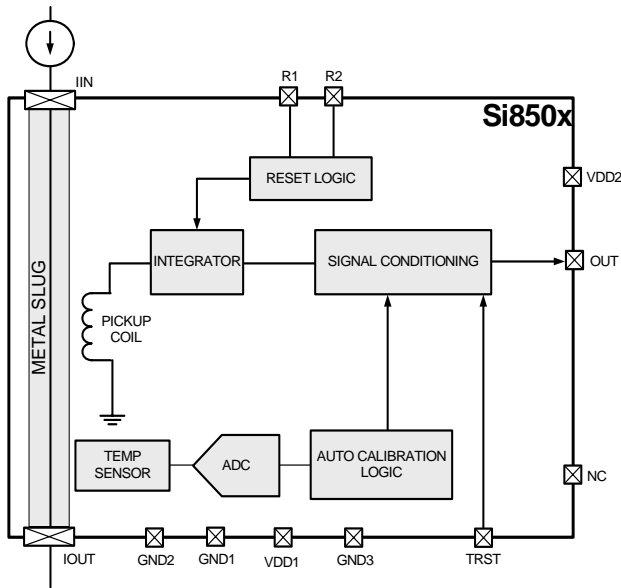
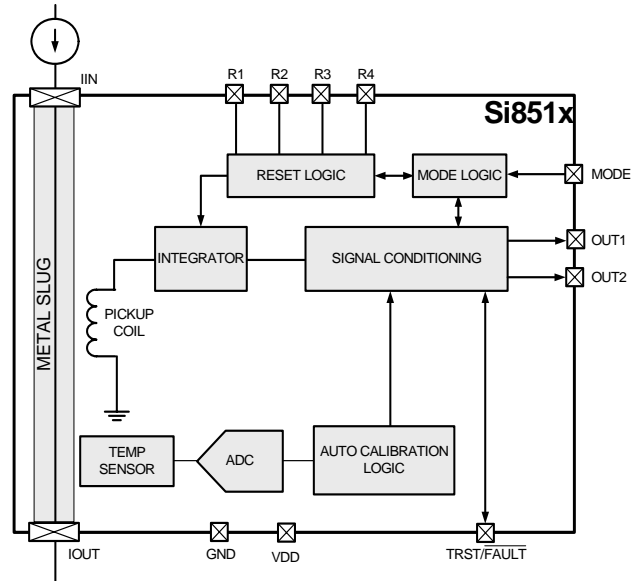

Figure 1. Si850x (Single Output) Block Diagram
Figure 2. Si851x (Ping Pong Output) Block Diagram
The Si85xx AC Current Sensor family of products mimic the functionality of a traditional current transformer (CT) circuit with burden resistor, diode and output filter, but offers enhanced performance and added capabilities. These devices use inductive current sensing and on-board signal conditioning electronics to generate a 2 V full-scale output signal proportional to the ac current flowing from the IIN to the IOOUT terminals. As shown in Figure 1 and Figure 2, current flowing through the metal package slug induces a signal in the pickup coil on-board the Si85xx die. This signal is applied to the input of an integrator that re-constructs the ac current flowing from IIN to IOOUT. On-board circuitry provides cycle-by-cycle integrator reset, and temperature and offset voltage compensation to achieve measurement accuracy to within  $\pm 5\%$ .